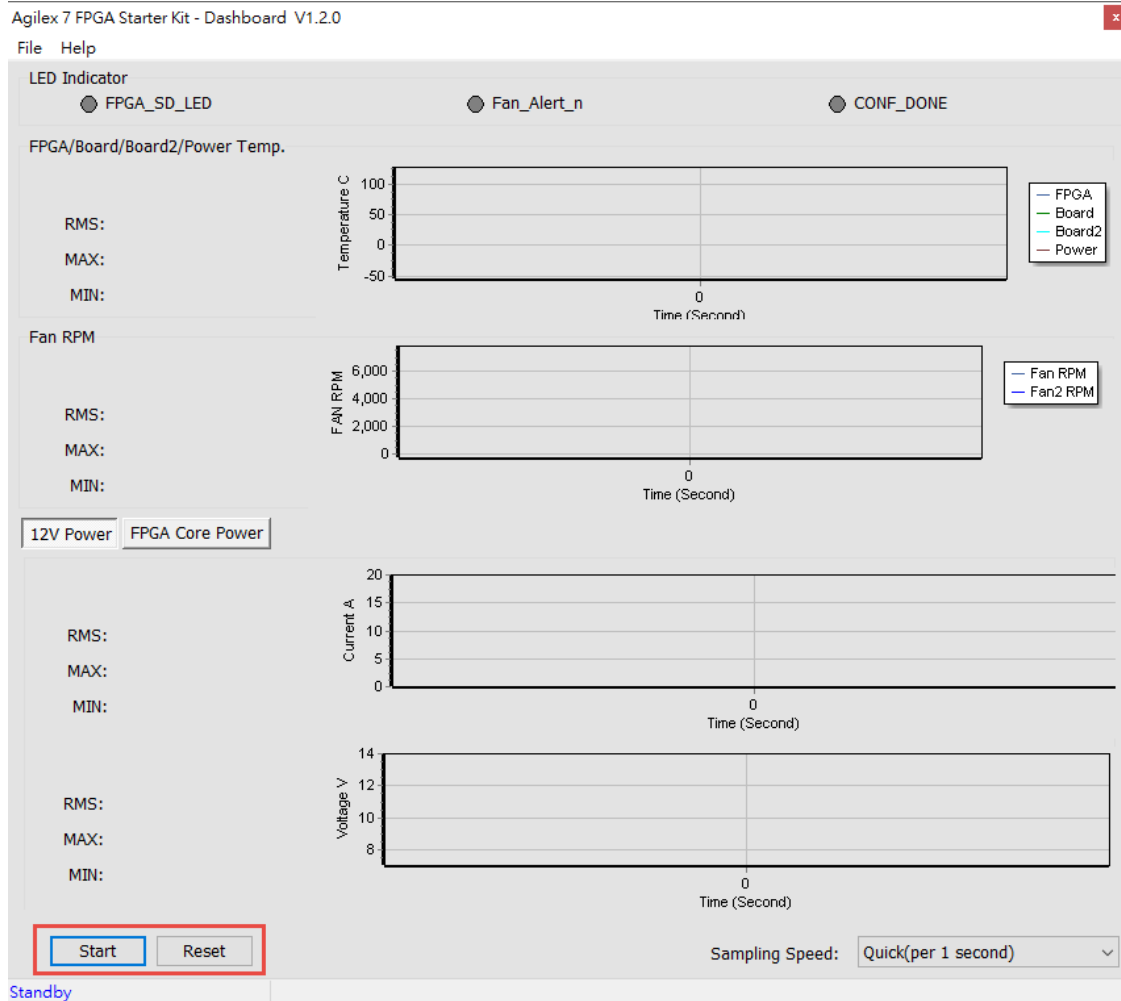

Figure 3-7 Start and Reset button
- **Start/Stop:** As shown in Figure 3-7, there is a Start button at the bottom-left of the GUI window. Click it to run the program (Start will change to Stop), it will show the Agilex 7 FPGA Starter Kit board status. Users can press Stop button to stop the status data transmission and display.